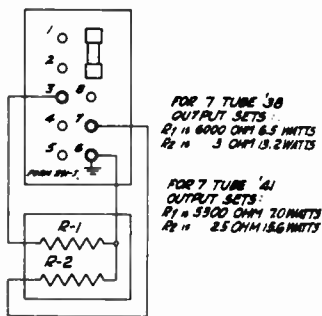

Fig. 1. Using Resistors for Load
- 1—Resistor for the "A" circuit as indicated in Fig. 1.
- 1—Resistor for the "B" circuit as indicated in Fig. 1.
Then insert the tips in the multi-post socket as shown in Fig. 1.